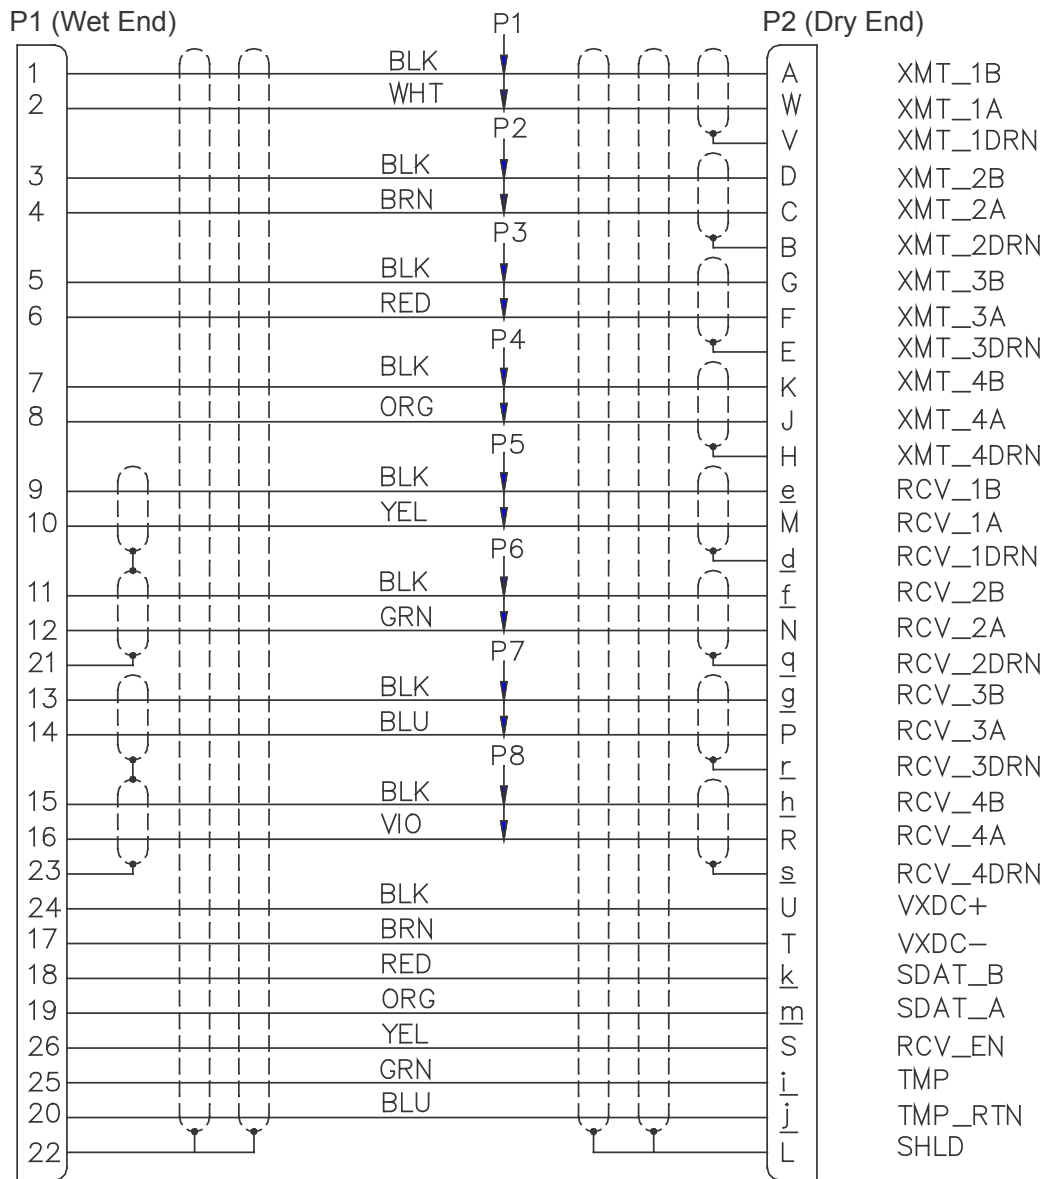

Figure 29. I/O Cable Wiring (73A-6010)
13. Insert pins into the unused pins of the connector using the insertion tool (MS24256A20 (DAK20)). The unused pins are X, Y, Z, a, b, c, n, p, and t. This will prevent the potting compound added in step 17 from leaking out the holes. The pin out configuration is shown in Figure 29.
14. Insert the pins with wires in the connector using the insertion tool (MS24256A20 (DAK20)). The pin out configuration is shown in Figure 29.